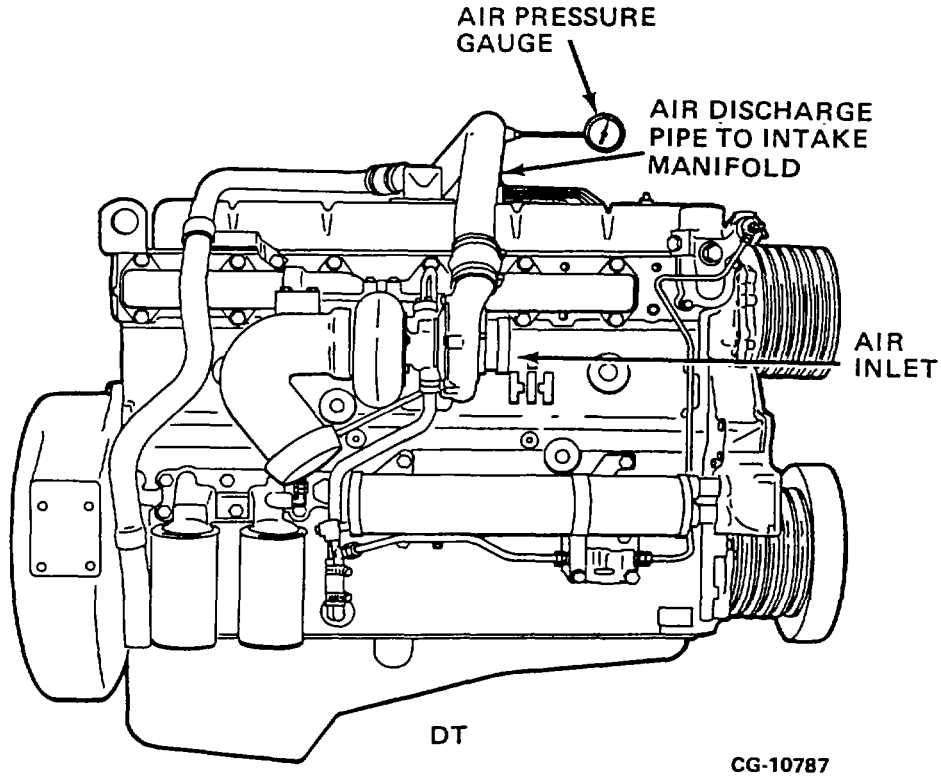

Figure 23a. Intake Manifold Pressure Test (DTI-Shown)
- a. DT and DTI: Remove the 1/4 in. NPT pipe plug from the air discharge pipe and install a connector and plastic tubing (Figures 23a and b).